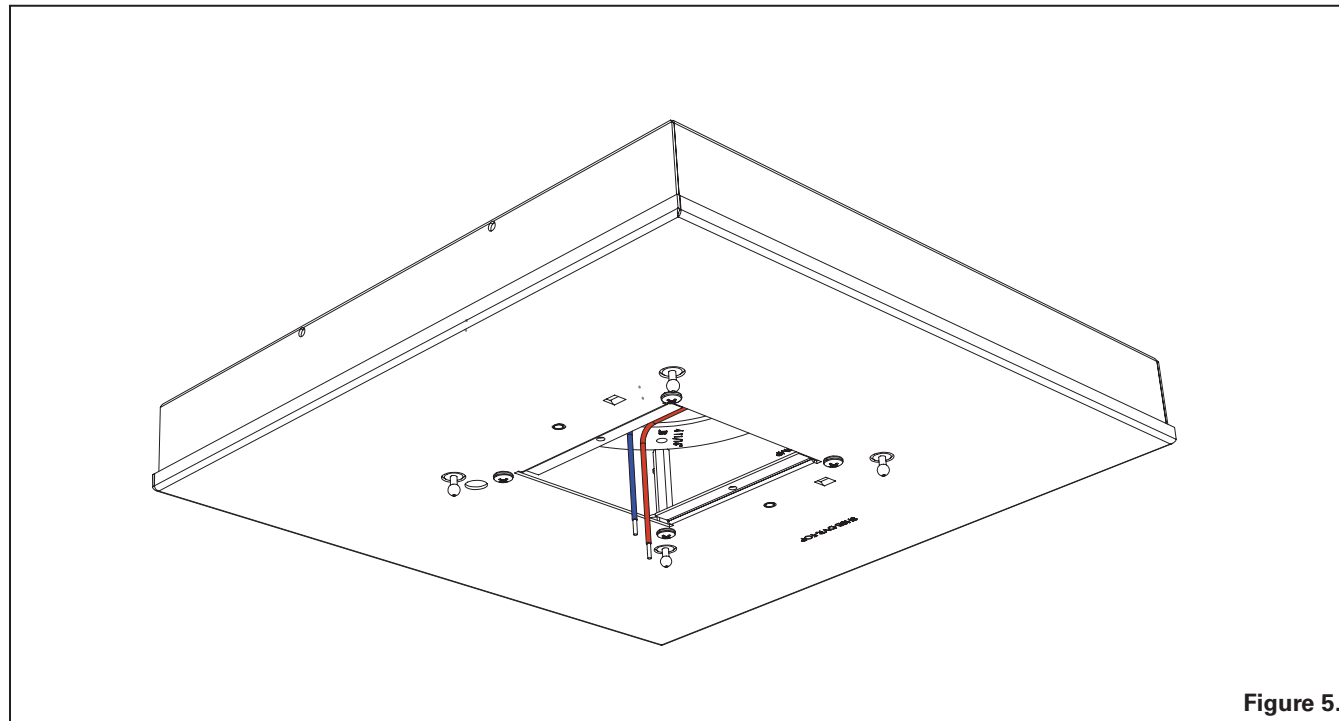

Figure 5.
Step 5. Pull the Red and Blue low voltage supply wires through the access opening. Ref. Figure 5.